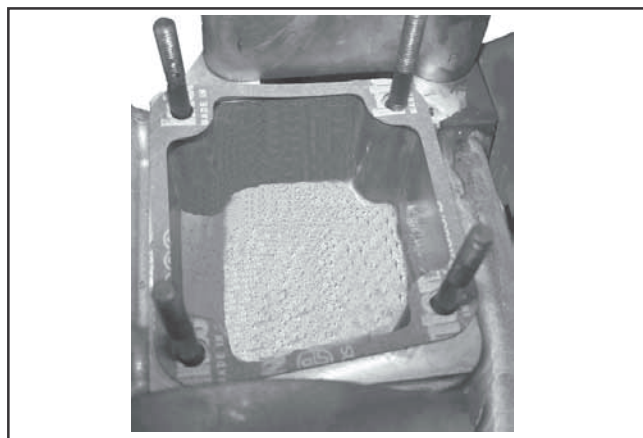

Figure 10-38. Breather Chamber and Gasket.
2. Install the breather chamber gasket as shown. See Figure 10-38. Assemble and install breather assembly components as illustrated in Figure 10-39. Make sure the filter does not extend above top surface and all parts are properly aligned.